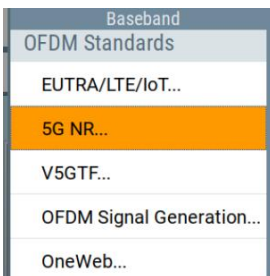

Fig. 7-5 Select 5G NR baseband
4. In Baseband module, select "**5G NR**". See Fig. 7-5